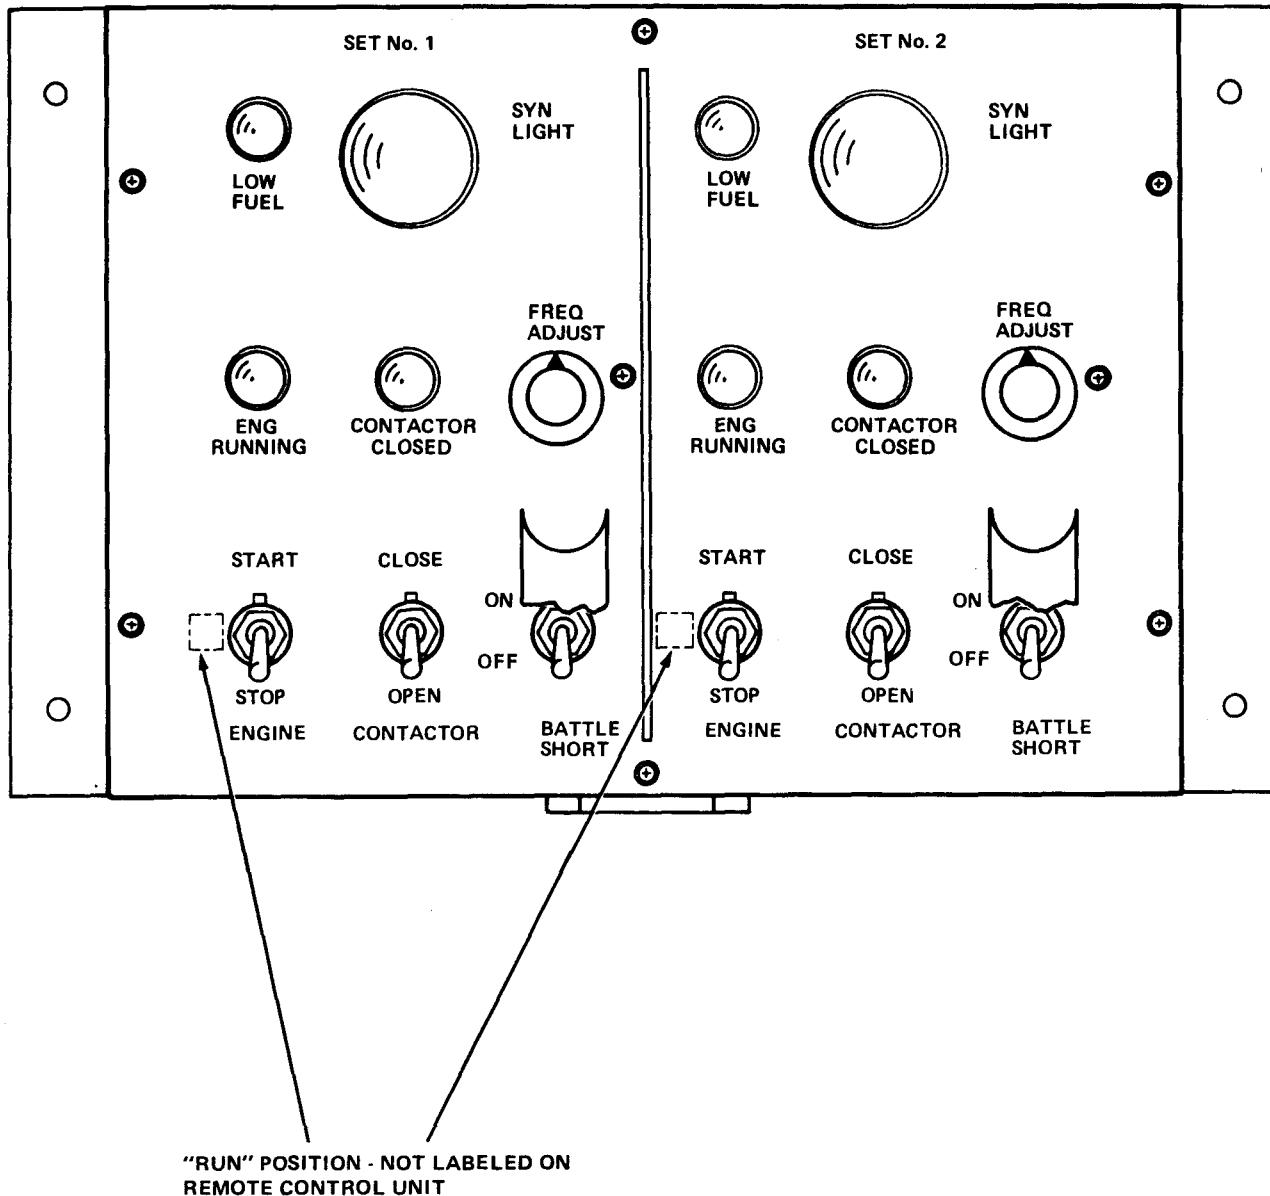

Figure 2-2. Remote Control Unit Controls and Indicators
(2) Figure 2-2 shows the controls and indicators of the remote control unit.